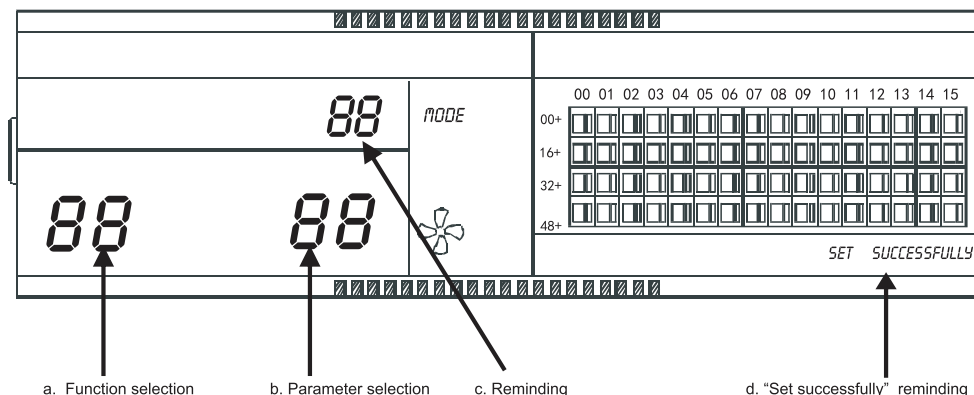

Fig 2.9 Filter net in addition to the dust function involves of show a contents
① Dial the dial code 3 to "ON", select the "Has optional function" referring to table 2.1 to , and then power on the centralized controller, in 1 minute press "  " key and hold on then press "  " key, enter to optional function setting. Dual eight represented function selection (Fig.2.9 a) will be flashed with 1Hz frequency (default display 00), display the optional function code (see table 2.2). Press "  " and "  " keys to select function, and then press "  " key to enter parameter selection.
②After enter parameter selection, dual eight represented function selection will be lighted on, dual eight represented parameter selection (Fig.2.9 b) will be flashed with 1Hz frequency, display optional parameter code. Through pressing "  " and "  " keys to select the detailed parameter.
③Press "  " to confirm parameter selection(details parameter codes' corresponding time refer to table 2.3).
④After setting successfully, Dual eight represented function selection and dual eight represented parameter selection will be lighted on, the screen will display "Setting successfully" (Fig. 2.9 d). After 3 seconds will auto exit optional function setting. The screen will back to normal display.